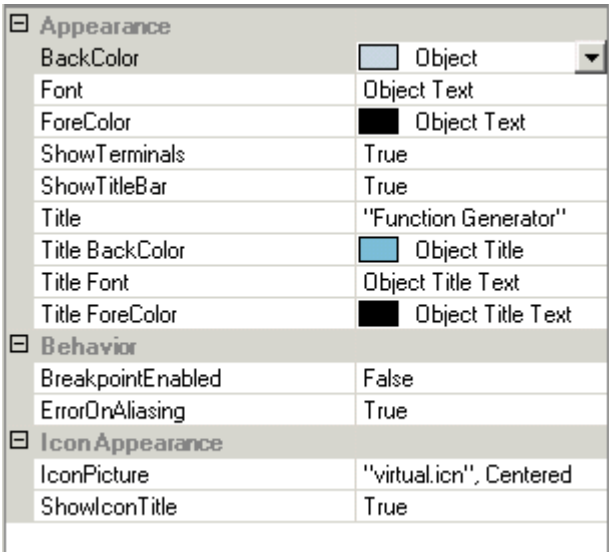

Figure 12 Changing the Title of an Object
- 1 Open the object menu and select **Properties . . .** A Properties window appears on the left side of your screen. Select the Title property and change the property value to whatever you would like, in Figure 12.